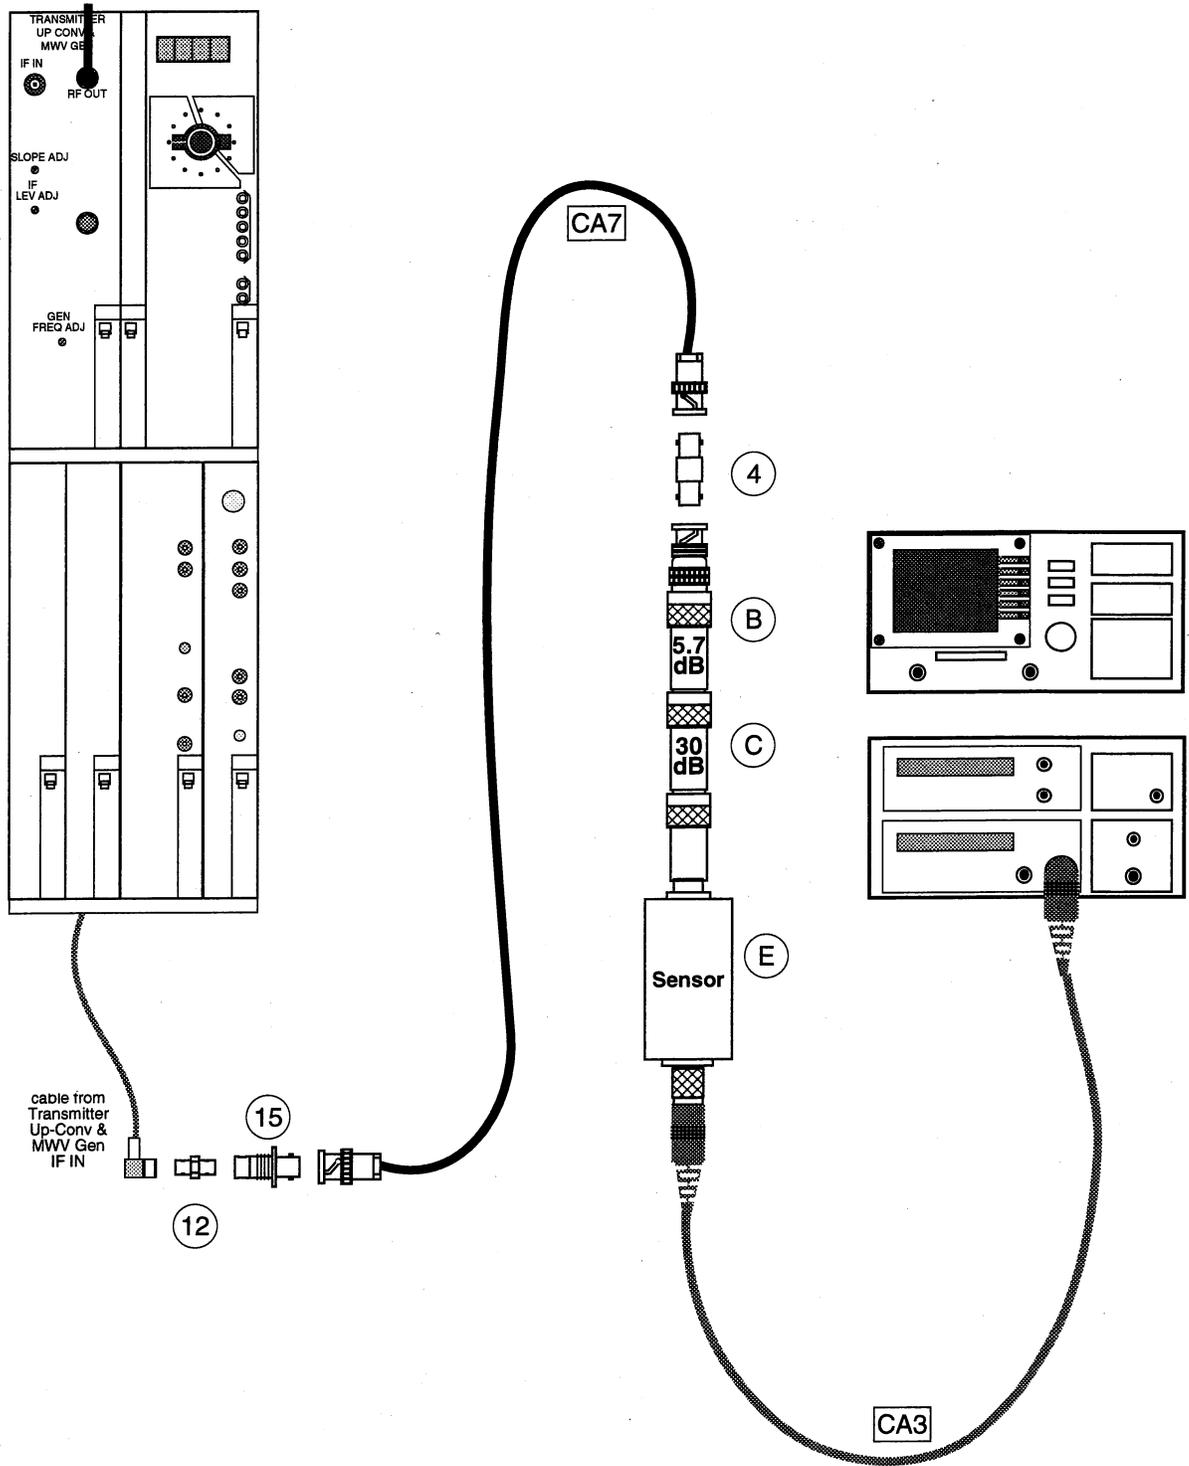

Figure 12. Up-Converter Input Level Check
- 4 Connect the test equipment as shown in Figure 12.